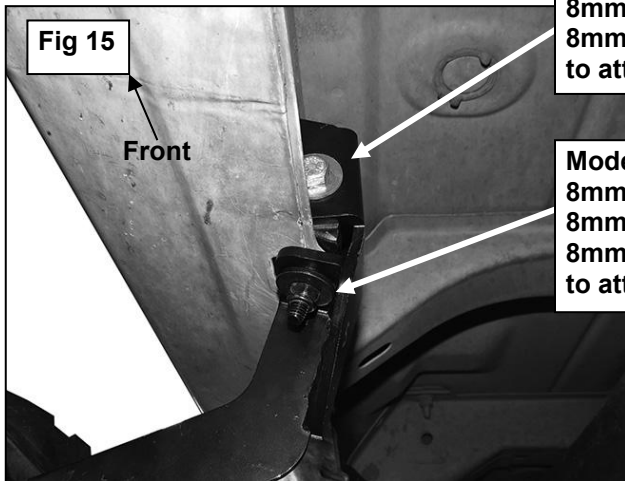

Fig 15
10. Line up the side tab on the Lower Bracket with the threaded hole in the side of the Upper Bracket. Attach the Lower Bracket to the Upper Bracket with (1) 8mm x 25mm Hex Bolt, (1) 8mm Lock Washer and (1) 8mm Flat Washer, (**Figure 15**). Leave loose at this time. Repeat **Steps 1—3** for the (2) remaining passenger side Bracket installations.